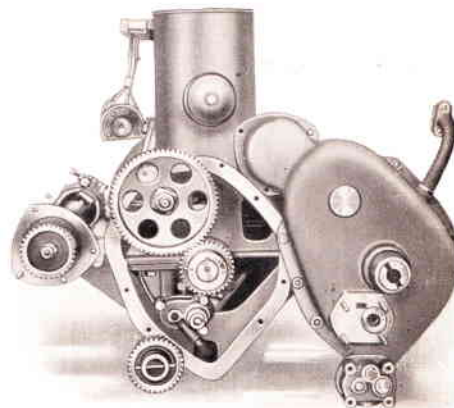
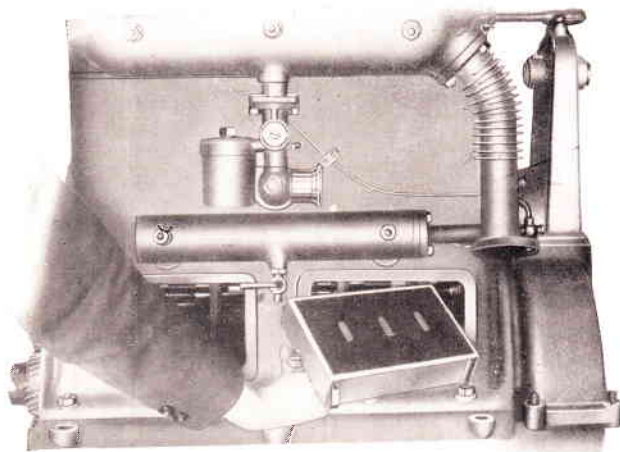

Figure 4.
Figure 5.
**Transmission Drive.** The transmission drive for the camshaft, magneto, water and oil pumps, is situated at the forward end of the engine (see Figure 4). All these parts are easily accessible by simply removing the forward transmission case cover. All gears have silent-running spiral cogs, planed in a special machine. There is no chain drive, and thus constant readjustment is entirely eliminated.
**Lubrication.** Is force fed to all Main and Connecting Rod Bearings, Camshaft Bearings and Reverse Gear, by a readily accessible gear pump, situated inside the transmission casing (see Figure 4). The pump draws oil from the oil well (which is in the lower portion of the crankcase), passing it through a large filter having an area of no less than 3 square decimetres (3,23 square feet). This filter is easily removable for cleaning purposes (see Figure 5). The oil pressure is kept constant by means of a spring actioned plunger valve, and is thus absolutely independent of whether the oil is hot or cold, or if the engine is running at low or high numbers of revolutions. An oil gauge is provided to indicate that the lubrication system is functioning correctly.
**Water cooling system.** This is very effective. The pump is driven by means of a gear, fitted outside the forward transmission casing (see Figure 4). The entire pump chamber and the common inlet and outlet pipe on the Port side of the engine are easily detachable for cleaning.